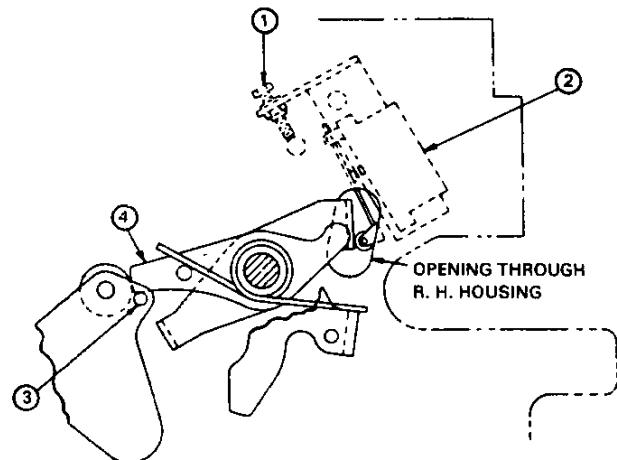

Fig. 6 — Latch Check Switch Adjustment
5.9 OPERATING MECHANISM (See Figure 6)